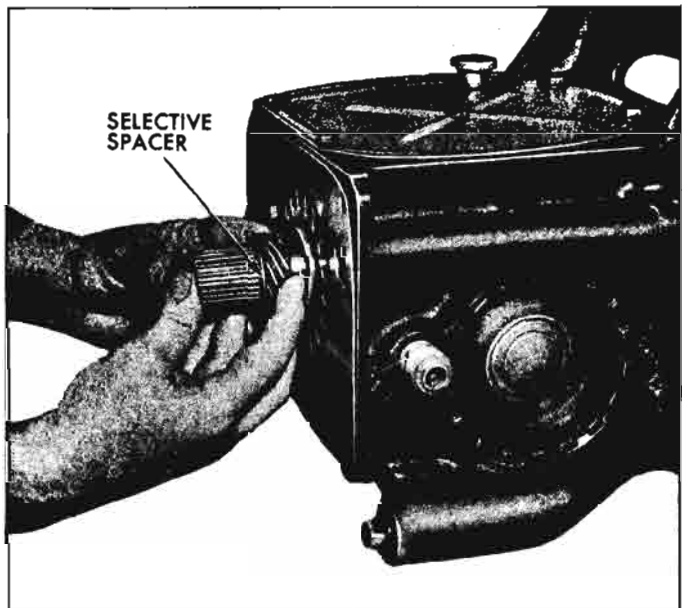

Fig. 6-13—Removing Governor Drive Gear and Spacers
5. Remove transmission to differential carrier gasket and remove the governor gear and selective spacers from the pinion shaft of the differential carrier (fig. 6-13).